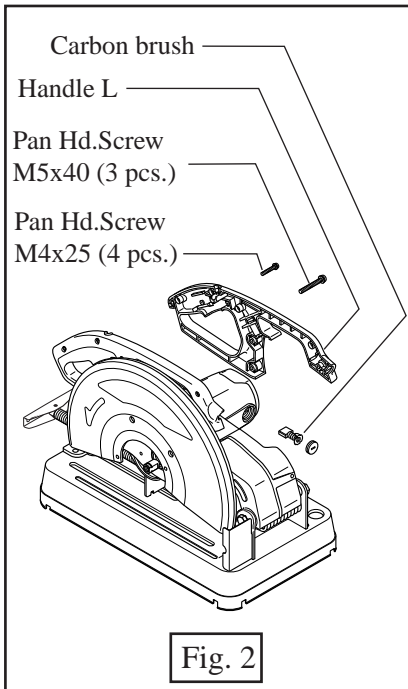

Fig. 2
- (1) Remove carbon brushes. Remove handle L by unscrewing 3 pcs. of pan head screws M4x25 and 4 pcs. of pan head screws M5x40. See Fig. 2.
- (4) Secure handle L with 4 pcs. of pan head screws M4x25 and 3 pcs. of pan head screws M5x40. And mount carbon brush. See Fig. 2.